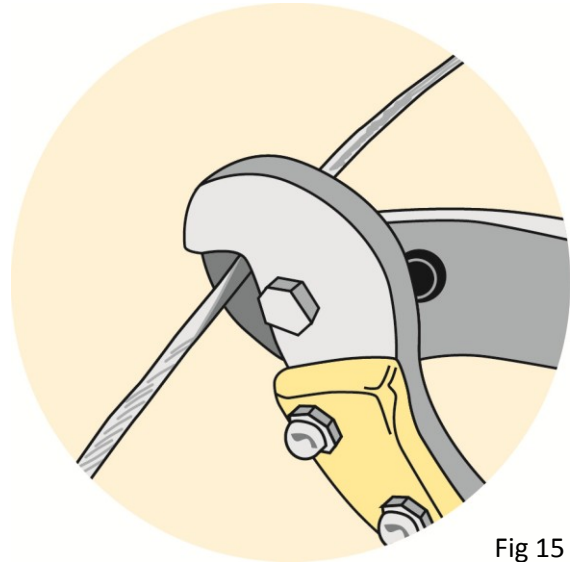

Fig 15
– Cut cable to its final length (Fig. 15).